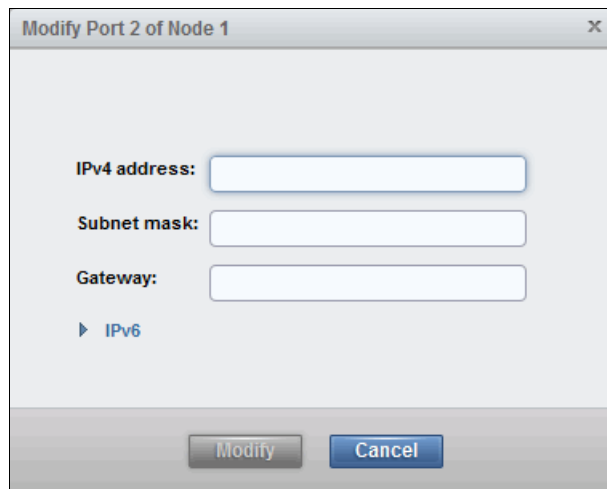

Figure 4-50 Configuring an IP address, subnet mask, and gateway for Port 2 of Node 1
- The window shown in Figure 4-50 should open. To configure IPv6, click **IPv6** to reveal these options.